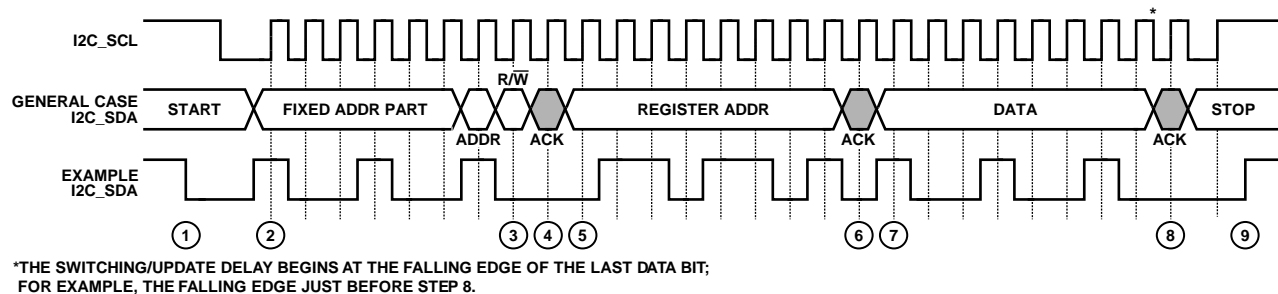

Figure 32. I²C Write Procedure
To write data to the ADV3002 register set, an I²C master (such as a microcontroller) needs to send the appropriate control signals to the ADV3002 slave device. The signals are controlled by the I²C master, unless otherwise specified. For a diagram of the procedure, see Figure 32. The steps for a write procedure are as follows:
3. Send the write indicator bit (0).
- a. Send a stop condition (while holding the I2C_SCL line high and pulling the I2C_SDA line high) and release control of the bus to end the transaction (shown in Figure 32).